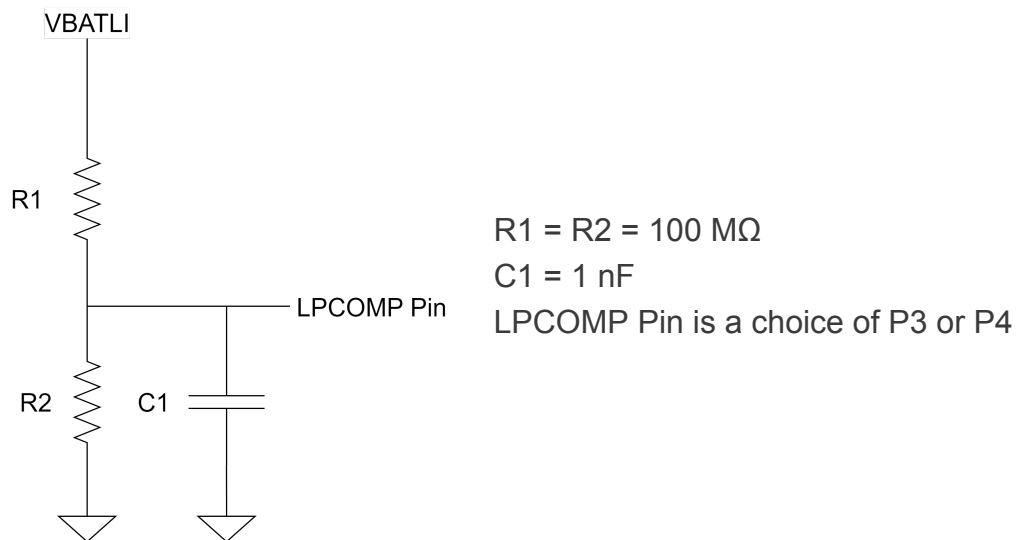

Figure 1 - Example for External Inputs
- Figure 1 - Example for External Inputs